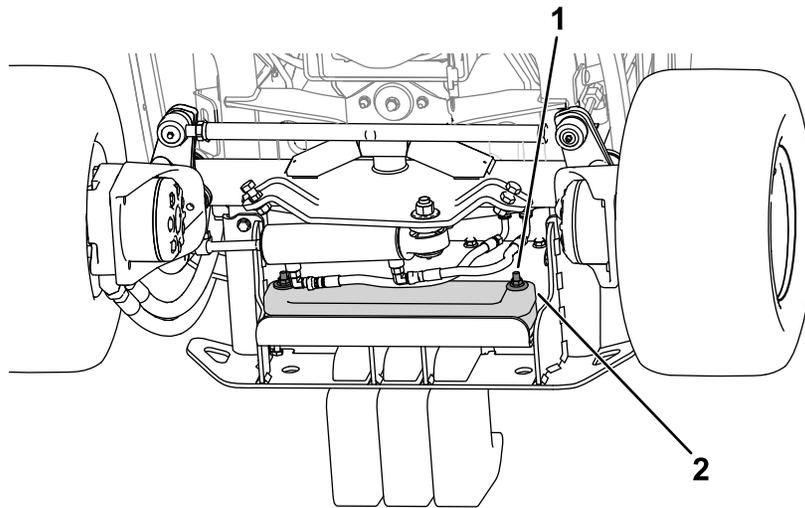

Figure 21
2. Use the hardware to secure the weights to the bumper (Figure 21).